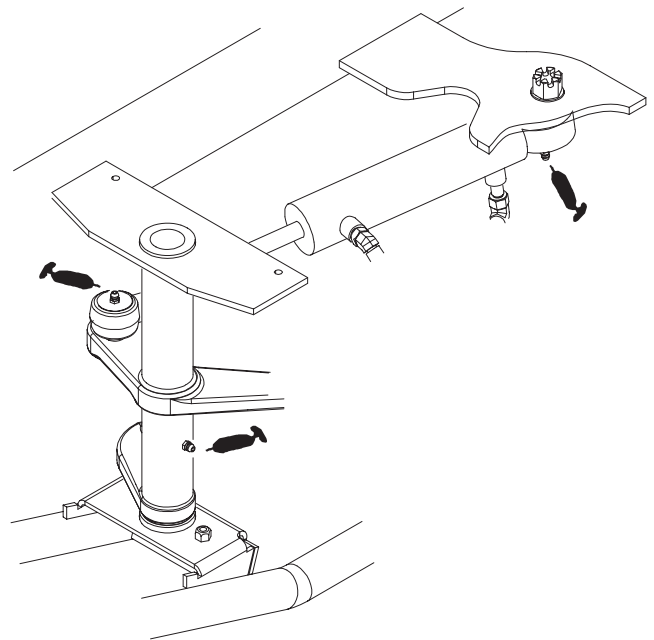

Figure 33
The grease fitting locations and quantities are: Steering pitman arm (1) and Steering ball joint ends (2) (Fig. 33), Tie rod ends (4) (Fig. 34), Front ball joints (4) (Fig. 34), Rear drive shafts (18) (Fig. 35), Pedal Pivots (3) (Fig. 36); Front pivot bushings (2) (Fig. 37) and Throttle pivot (1) (Fig. 38).